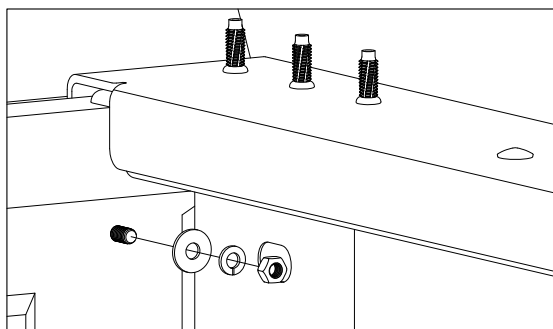

FIGURE A5: PASSENGER SIDE OF BED
7. **Install forward bolt connection.** From the gap between the bed and the cab insert a 5/16" X 3/4" Carriage bolt into the Bed Protector and secure using a flat washer, lock washer and finish nut, as shown in figure A5 Do not fully tighten hardware at this time.